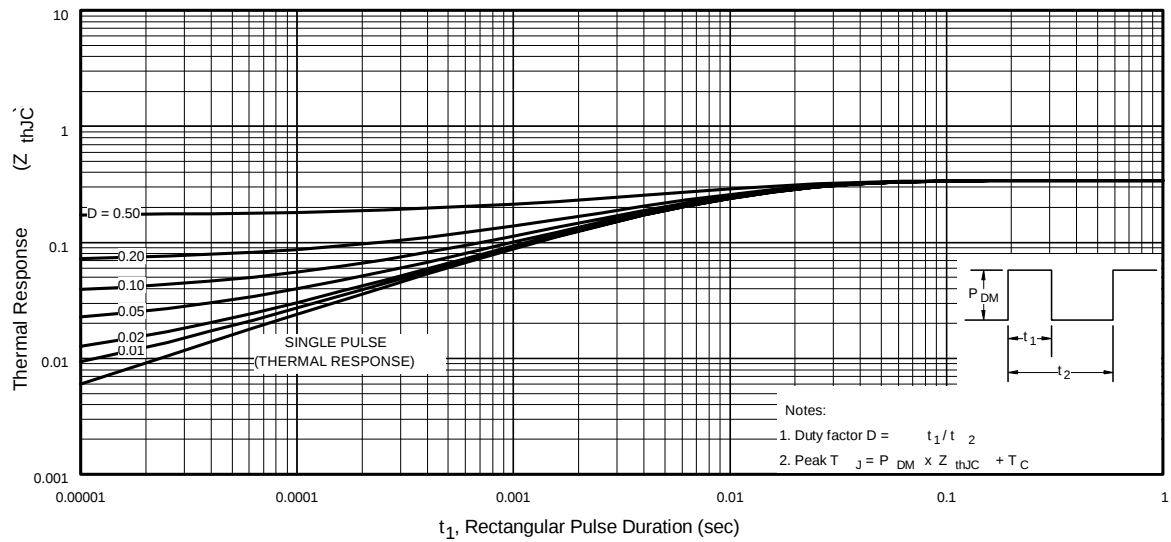

Fig 12. Maximum Effective Transient Thermal Impedance, Junction-to-Case
- ② Starting $T_J = 25^\circ\text{C}$, $L = 1.5mH$, $R_G = 25\Omega$, $I_{AS} = 23A$, $dv/dt = 14V/ns$. (See Figure 12).
- ③ $I_{SD} \leq 23A$, $di/dt \leq 430A/\mu s$, $V_{DD} \leq V_{(BR)DSS}$, $T_J \leq 150^\circ\text{C}$.
④ Pulse width $\leq 300\mu s$; duty cycle $\leq 2\%$.
⑤ $C_{oss \text{ eff.}}$ is a fixed capacitance that gives the same charging time as C_{oss} while V_{DS} is rising from 0 to 80% V_{DSS} .